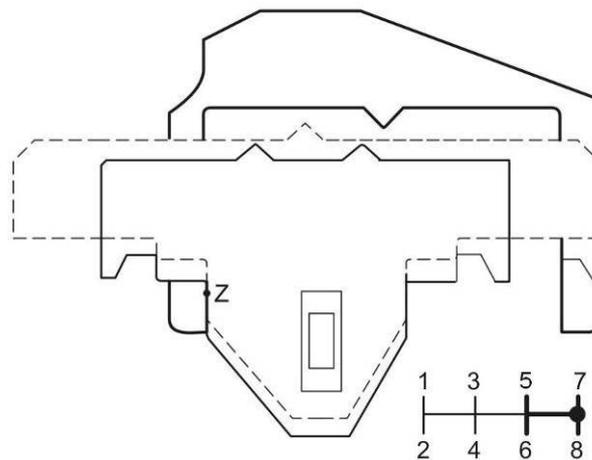

Figure 23 Neutral D
- f. **Neutral D.** If the neutral D is selected, the detent plunger shifts the lower detent plate away from the shift bush. This action only allows the selection of neutral C (Figure 23) due to the interference between the shift bush and the upper and lower detent plates at point Z.
- g. **Down Shifting.** Shifting from neutral D to neutral C and selecting fifth or sixth gear ratios allows the selection of neutral B or D when neutral C is re-selected (Figure 23). Similar down-shifting through third or fourth gear ratios will enable the selection of first or second gear ratios.